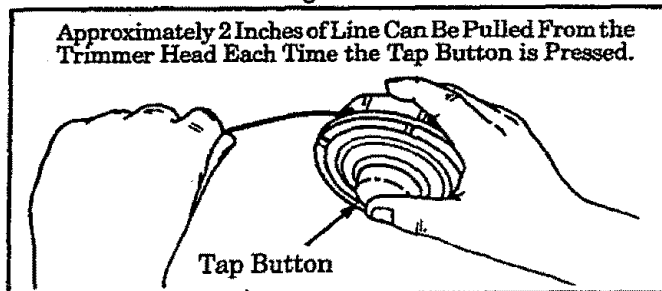

Figure 17
- j. Obtain correct line length (4 inches) by pressing the Tap Button (Figure 17) and pulling on the line again.